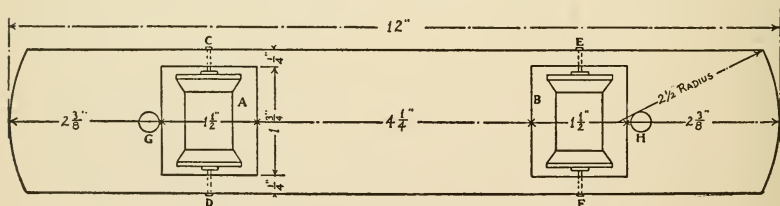
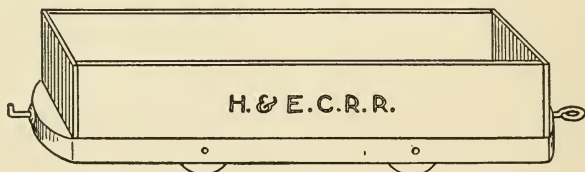

FIG. 358. — A Top View of Car Truck.
FIG. 362.—A Gondola Car.
car from one style into another. Figure 358 shows a top view of a truck. For the bed of this cut a three-eighths-
these points upon the ends of the pegs before placing the spools in the frame. A quarter-inch hole should be bored in the top of the truck-bed at *G* and *H* (Fig. 358) in which to fasten the two uprights *I* and *J*
**A Gondola Car**, such as shown in Fig. 362, should have its truck made similar to Fig. 358, with the exception